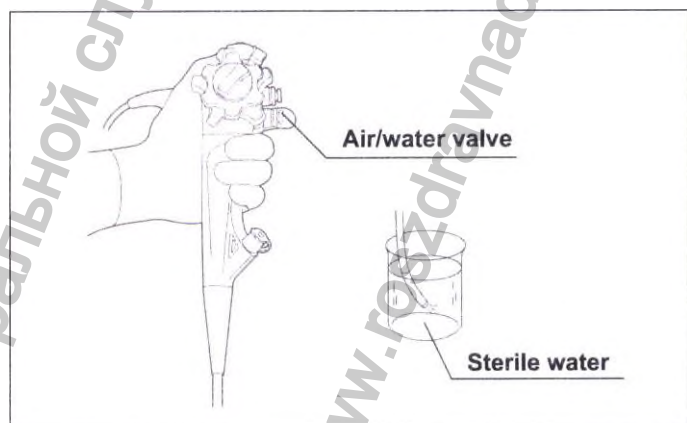

Figure 4.3
- 4 Cover the hole of the air/water valve of the endoscope, and press it so that air bubbles are emitted. Press the start/stop switch and confirm that the air bubbles from the air/water nozzle stop. (See Figure 4.3)